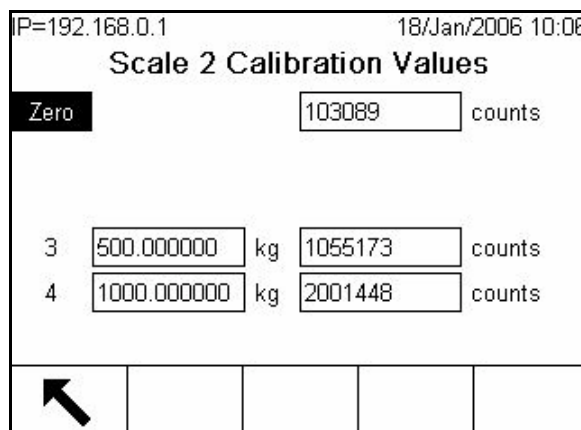

Figure 3-20: Calibration Values Screen, Zero in Focus
- **Calibration Values**—Displays the current calibration values for each scale (Figure 3-20). If these values are recorded after a scale calibration, and the scale channel PCB is replaced in the future, the calibration values can be manually entered here to “transfer” the previous calibration to the new scale channel PCB. This is not available with IDNet bases.